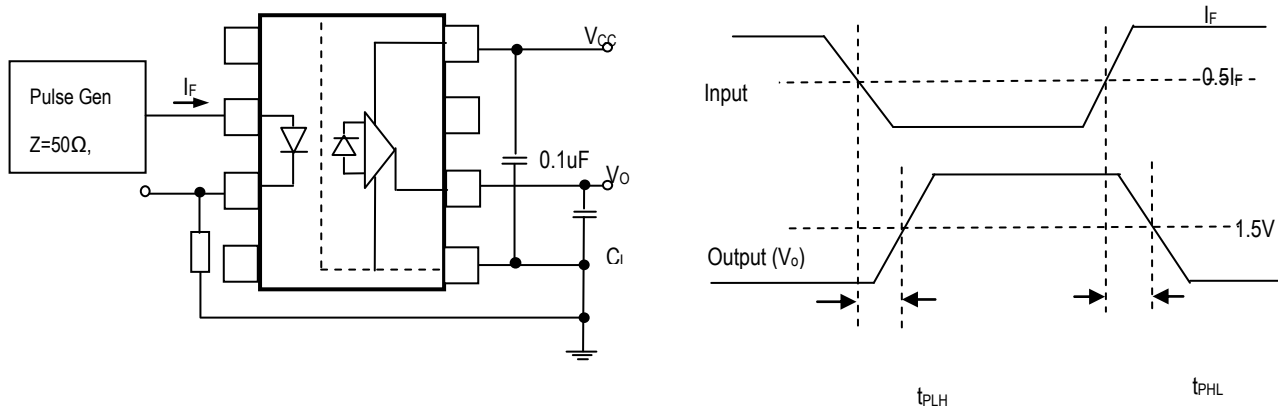

Figure 1: One Channel Test Circuit for t_{PHL} and t_{PLH}
1. A $0.1\mu F$ or bigger bypass capacitor for V_{CC} is needed as shown in Fig.1